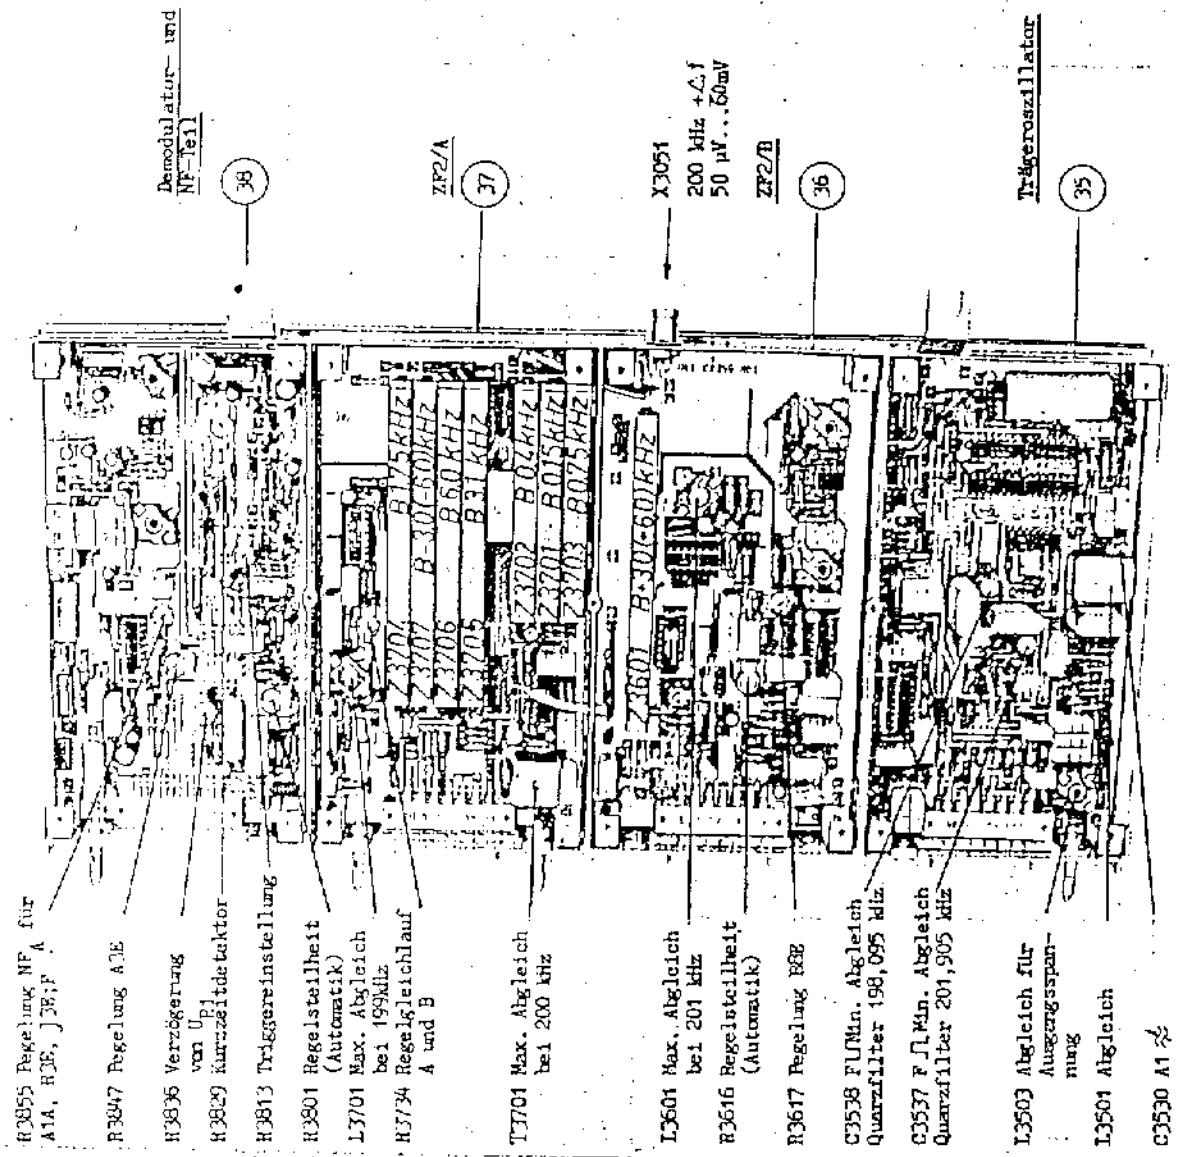

Figure 19
- Perform level check acc. to figure 19 or 20.